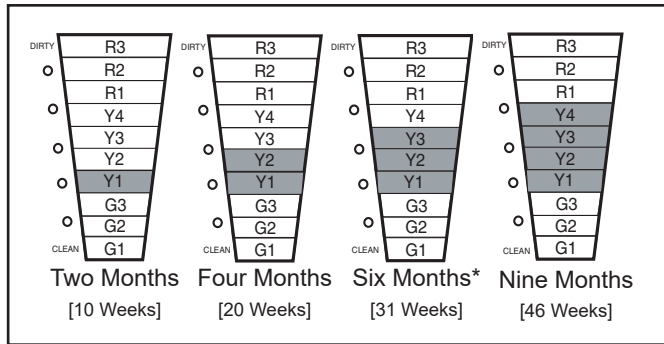

Figure 25 Yellow LED Collection Cells Settings
- The four YELLOW LED's indicate the COLLECTION CELLS cleaning interval. This is measured in actual run time of the indoor fan. The default setting is 6 months [31 weeks]. See Figure 25.
## CELL CLEANING SETTING (Figure 25)